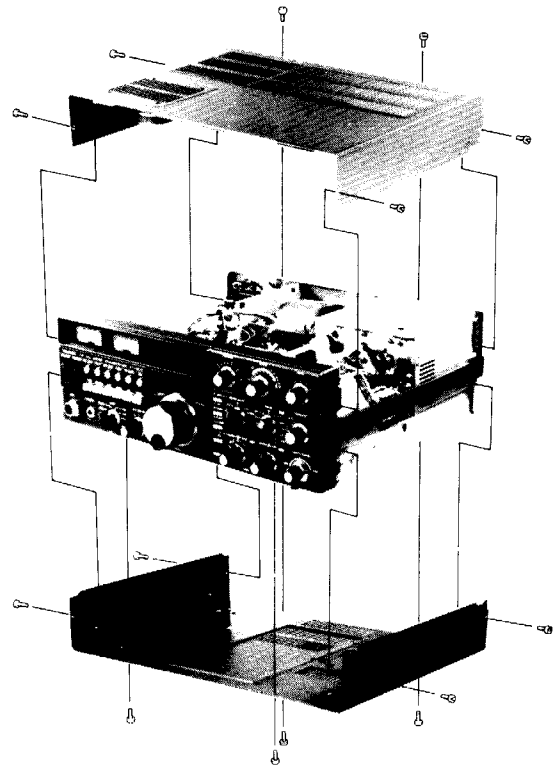

Figure 1
1. Disconnect the transceiver from the power source. Remove the two screws attaching the carrying handle, and then the 14 screws attaching the top and bottom covers as shown in Figure 1. Remove the handle and covers.